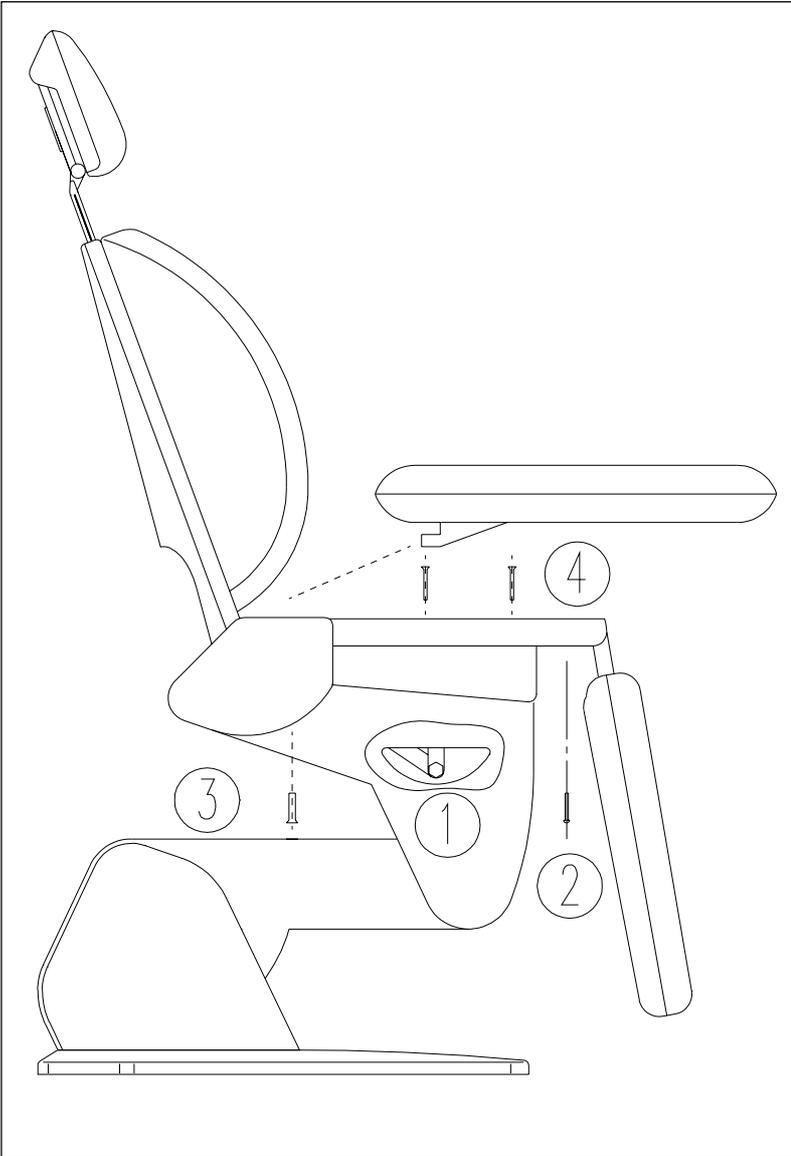

Figure 10. Patient chair.
- 3) Grease the bearing surface on the bolt before screwing in the legrest lever, see Fig. 10 (1). Tighten the lever.
- 10) Unscrew the two screws at (Fig. 10 (2)) and remove the seat.
- 11) Mount the side covers and tighten the screws, see Fig. 10 (3).
- 12) Mount the soft covers and tighten the screws (three screws for each cover), see Fig. 10 (4).